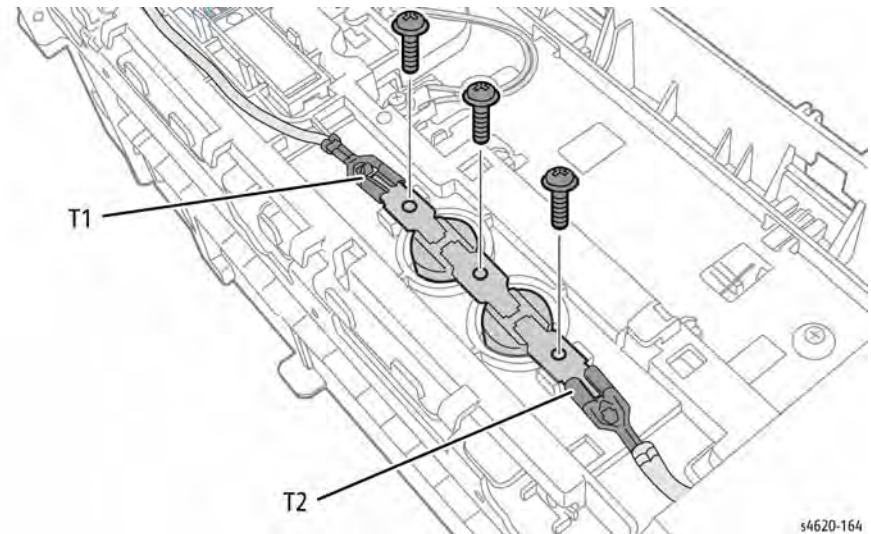

Figure 2 Remove the Thermostat
5. Disconnect 2 terminals (T1, T2) to remove the Thermostat from the Fuser, Figure 2.